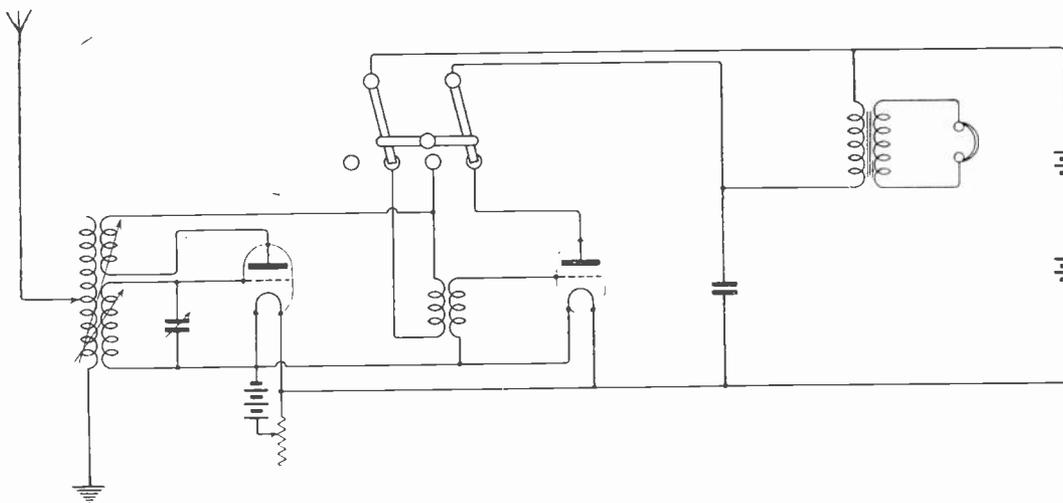

Fig. 4.
(1) The circuit of the diagram (Fig. 4) complies with your requirements, but we do not particularly recommend any switching method.
(2) Almost immaterial. If you use transformer H.F. we should use transformer L.F., and similar for resistance coupling.
(3) Presence of black colour does not necessarily prove great hardness, but it is generally found in hard valves.
(4) Depends very largely on the type of circuit used. A current amplification of five times is very fair.